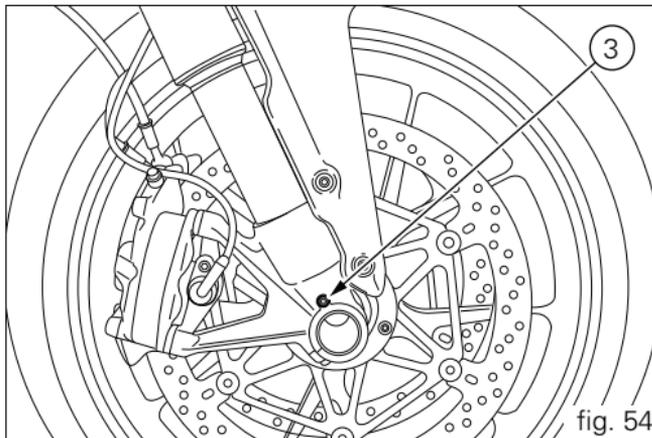

fig. 54
- 3) for compression adjustment (fig. 54).